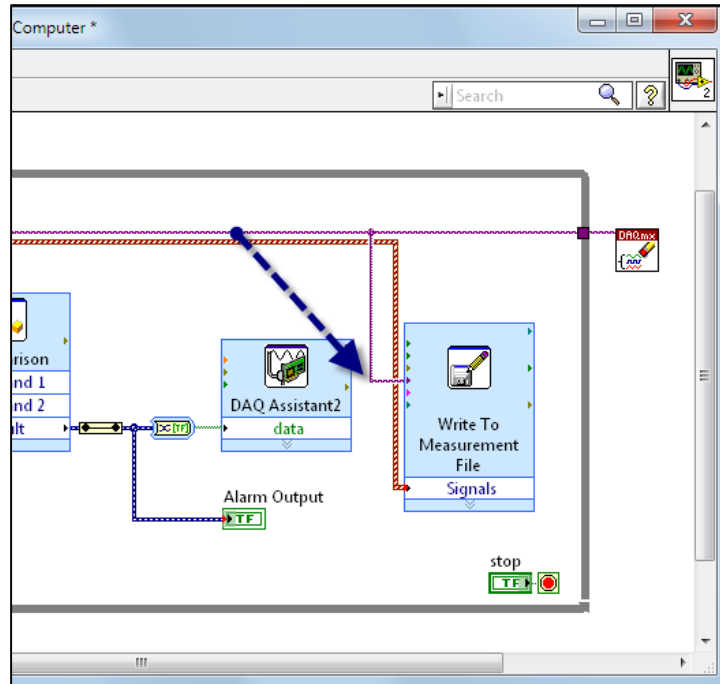

Figure 21. The purple DAQmx Task wire contains all data acquisition settings from the Measure Temperature and Light task.
- c. Left-click to place the Prompt User for Input Express VI outside of the while loop somewhere to the left of the while loop as shown in Figure 21.